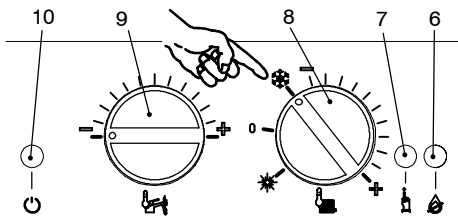

Fig. 7.11
- 10 Make a note of the position of the knob 9 and recorded this in Fig. 7.11 below with an *.